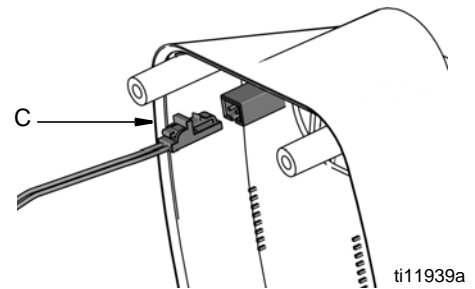

FIG. 9
- For Preset Meter only, reconnect solenoid lead (C) (FIG. 9).